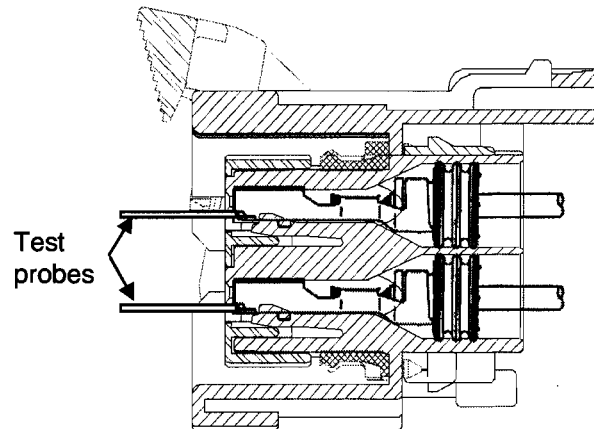

Figure 10-1A
3. As shown in the Figures 10-1A and 10-1B below, there is a space where a test probe can be inserted. The continuity inspection shall be conducted by inserting the probe in this space.